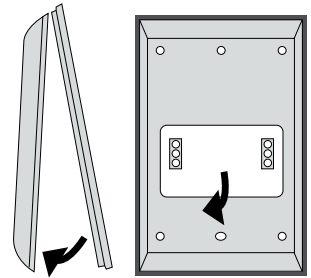

Fig. No. 13
2. Detach keyboard holder from EKB2 keyboard by gently pulling the holder towards yourself (see Fig. No. 13).